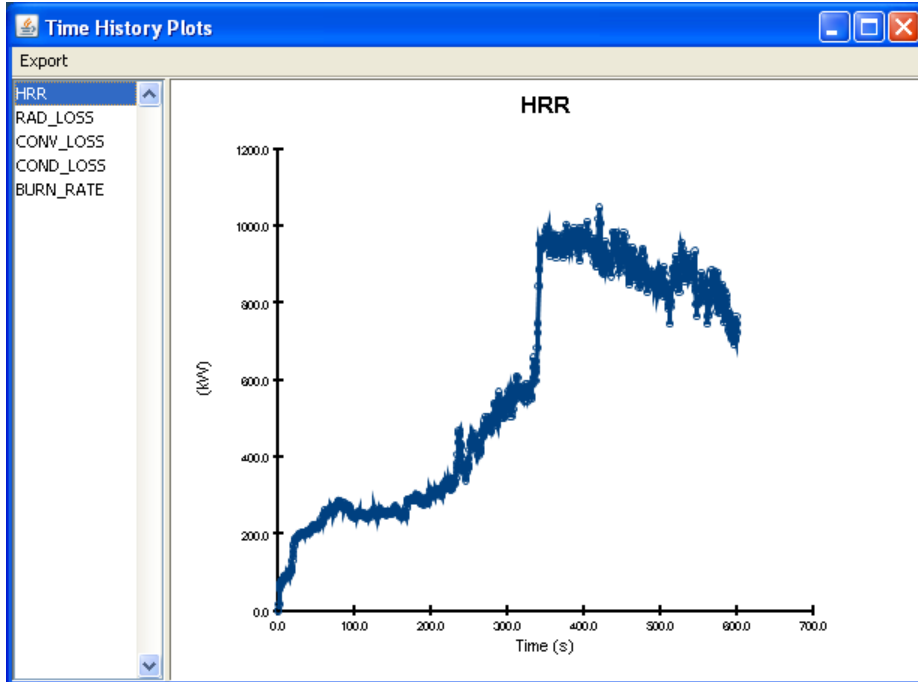

Figure 5.13. Heat release rate
2. A dialog will appear showing a list of 2D result files. Select **roomfire_hrr.csv** and click **Open** to view the heat release rate as a function of time, Figure 5.13.